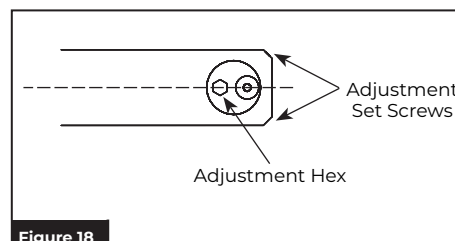

Figure 18
6. Open latch and sweep valves to allow door to close and observe door and frame alignment. If door is not centered in frame when closed, reopen door and use 5/16" hex wrench to rotate slider centering hub until door is centered. (Figure 18)